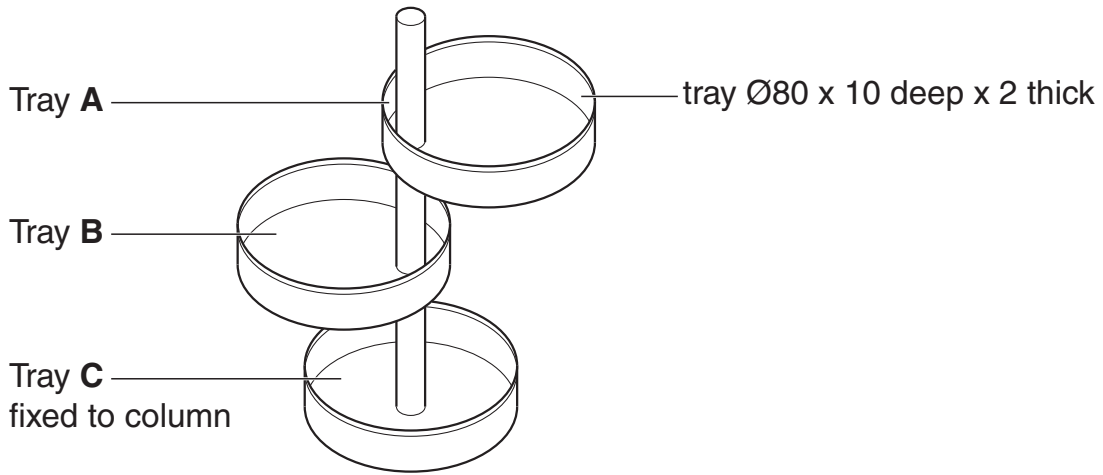

Fig. 8
- 5 Fig. 8 shows a prototype desk tidy. The trays used in the desk tidy are lids from containers that would have been thrown away. The trays are made from rigid polystyrene. Trays **A** and **B** can rotate about the column. Tray **C** is fixed to the column.